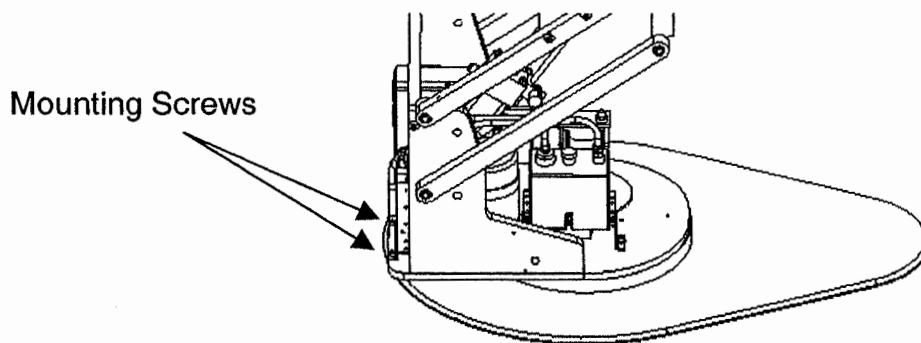

Figure 2
3. Using 3/16" hex wrench, remove and save the two mounting screws securing the pump bracket. (see Figure 2)